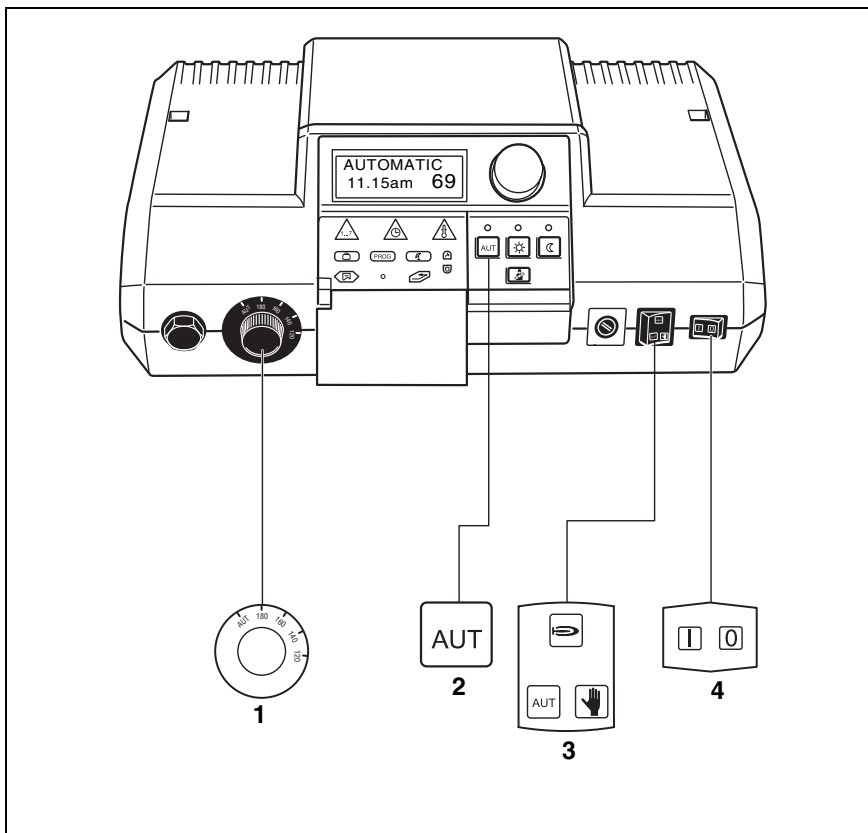

Fig. 8 Keys required to start up
- Set the ON/OFF switch to "I" (ON) (Fig. 8, **Item 4**).
- Set the boiler water thermostat to "AUT" (Fig. 8, **Item 1**).
- Set the Automatic mode, Emergency mode, Heating and DHW switch to "AUT" (Fig. 8, **Item 3**).
- Press the "AUT" key to start automatic mode with program (see "Changing the operating mode" page 22) (Fig. 8, **Item 2**).
Set the ON/OFF switch to "0" (Fig. 8, **Item 4**).